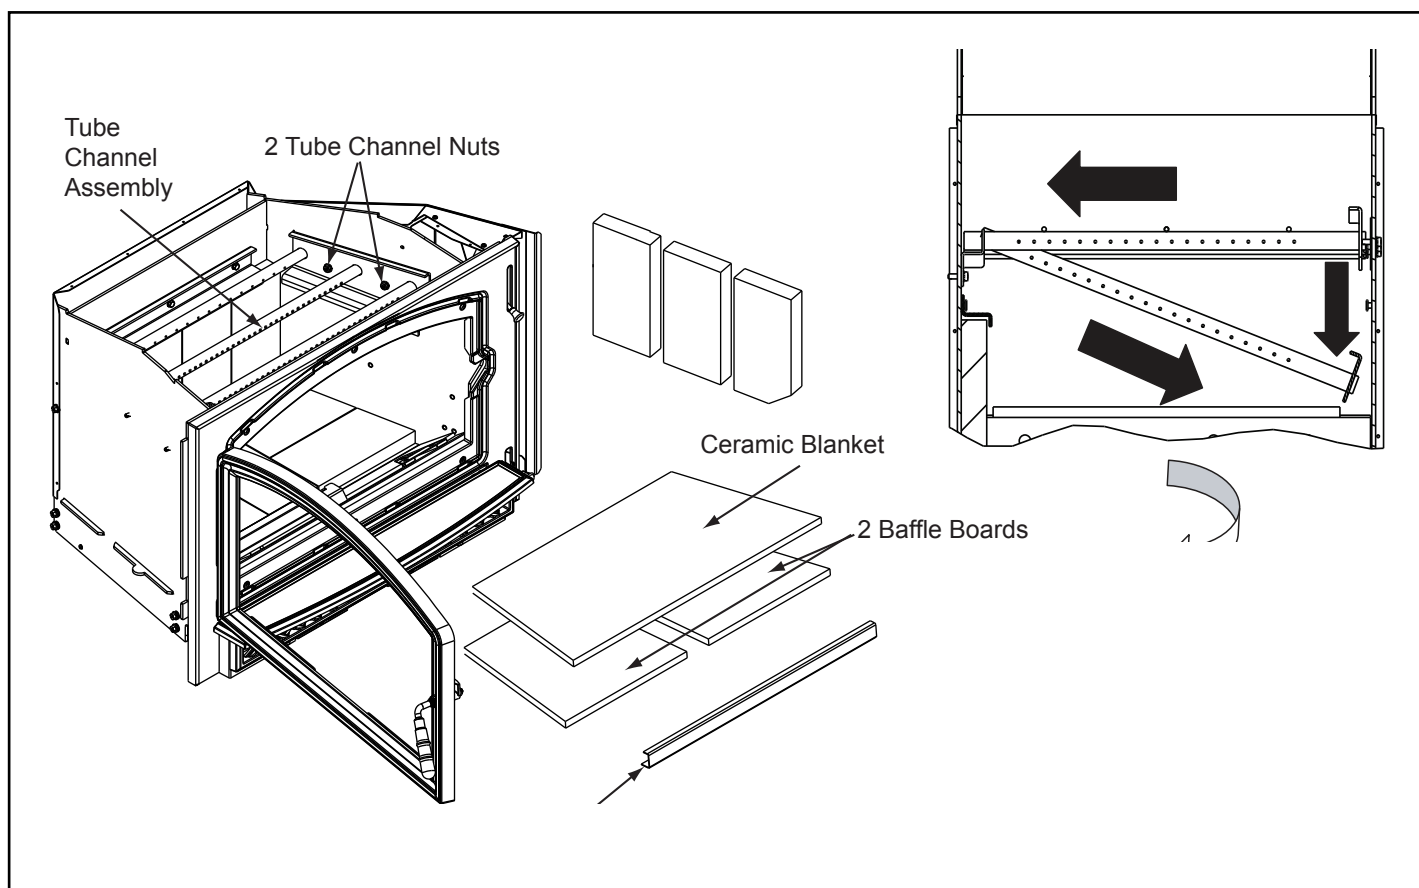

Figure 10.3
4. Slide the tube channel assembly all the way to left until it is off the threads. Drop the right side down, then slide the assembly back to right. **Figure 10.3**